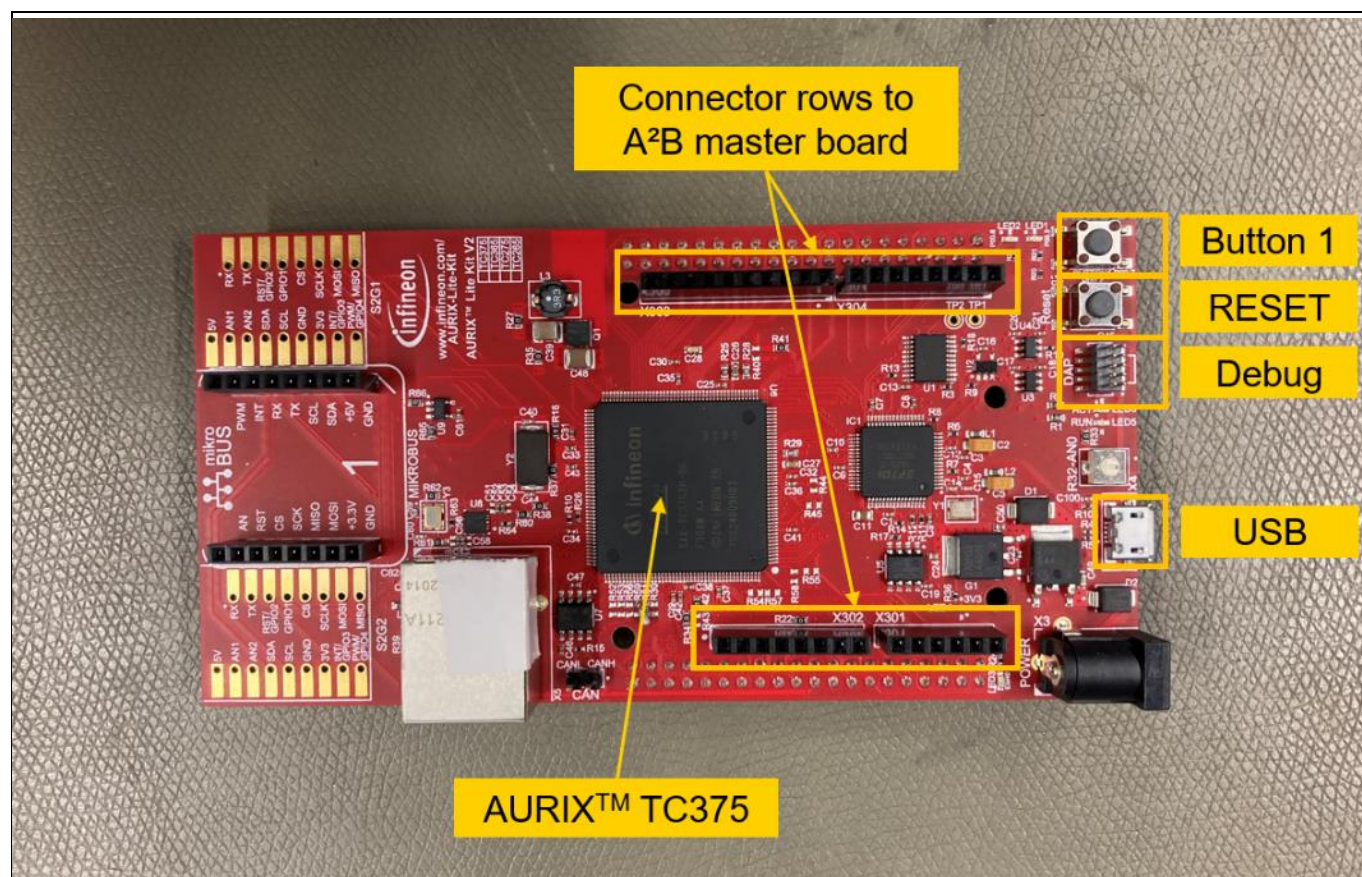

Figure 5 AURIX™ lite kit TC375 and its components as needed for the A²B eval kit
6. Press the “RESET” button on the AURIX™ lite board (Figure 5)
- The channel selection can be changed by pushing the Button 1 on the AURIX™ board. See Figure 5.